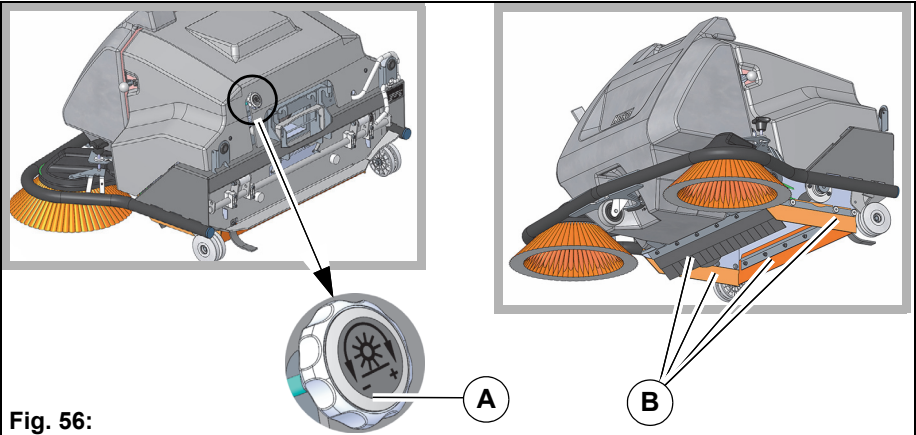

Fig. 56:
2. Rotate the adjustment dial **Fig. 56-A** until the cylindrical brush is touching the floor.
The sealing strips must be in perfect condition for the pre-sweep suction unit to operate efficiently. Inspect the sealing strip of the cylindrical brush compartment **Fig. 56-B** for wear and check for damage at regular intervals.